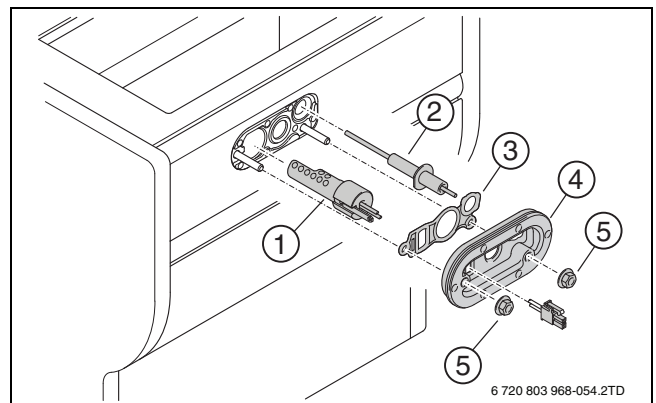

Fig. 85 Replacing the ignition device
- ▶ Replace the gasket (→ figure 85, [3]) and cover plate with gasket (→ figure 85, [4]) every 4 years.